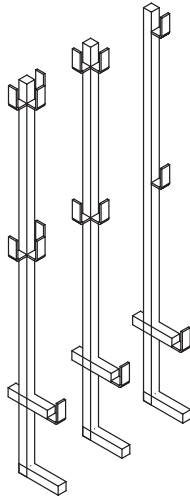

Fig. 14.18
4. When the board outline protrudes beyond the ceiling border you should install the railings by using the railing posts (A003...) (fig. 14.18). Fasten (with nails) the wooden square timber 14x14x30 cm to the bottom post arm so that the post can be installed by clamping its movable parts on the formwork plywood surfaces. The system also includes the corner post which allows for the installation of the planks in the ceiling formwork corner.